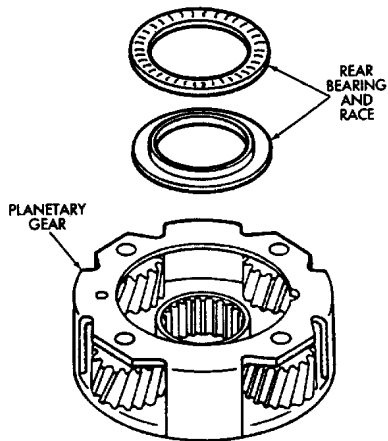

Fig. 2 Installing Front Planetary Rear Bearing and Race
- (3) Install rear race and bearing in gear (Fig. 2).